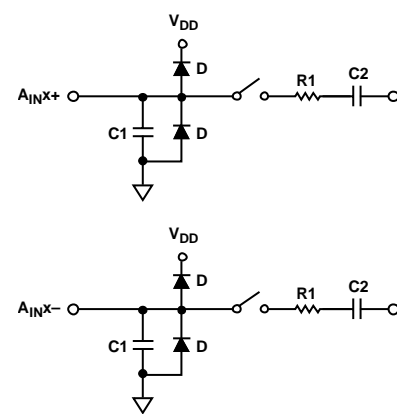

Figure 31. Equivalent Analog Input Circuit, Conversion Phase—Switches Open, Track Phase—Switches Closed
Figure 31 shows the equivalent analog input circuit of the AD7383 and the AD7384. The four diodes (D) provide ESD protection for the analog inputs. Ensure that the analog input signals do not exceed the supply rails by more than 300 mV. Exceeding the limit causes these diodes to become forward-biased and start conducting into the substrate. These diodes can conduct up to 10 mA without causing irreversible damage to the devices.
The C_1 capacitors in Figure 31 are typically 3 pF and can primarily be attributed to pin capacitance. The R_1 resistors are lumped components made up of the on resistance of the switches. The value of these resistors is typically about 200 Ω . The C_2 capacitors are sampling capacitors of the ADC with a capacitance of 15 pF typically.